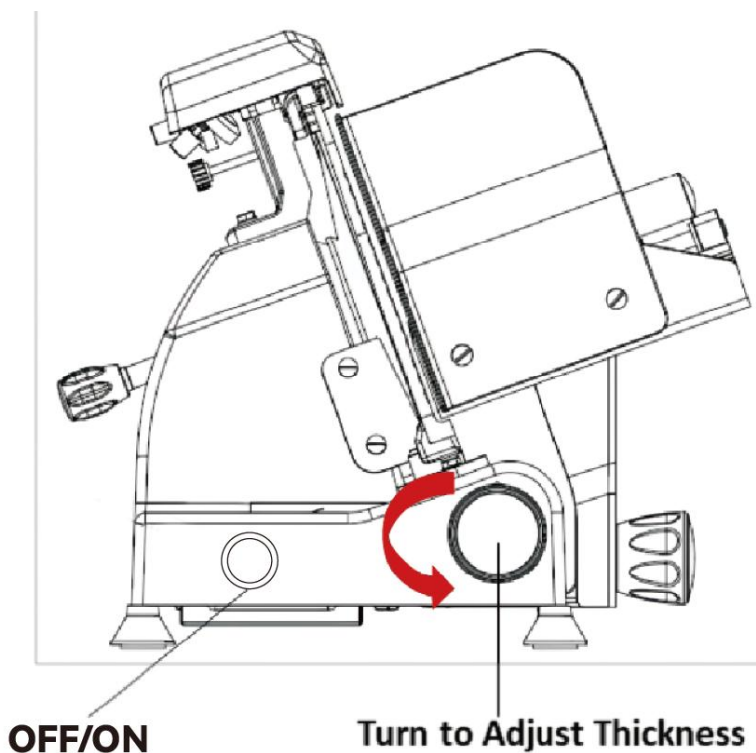

Fig. 2
5. To turn the meat slicer ON, push the Green "I" button. (Refer to Fig. 2)
6. To turn the meat slicer OFF, push the Red "O" button. (Refer to Fig. 2)
8. Place a tray or plate behind the Meat Slicer and below the Blade (Part ⑧) to collect the sliced food as it exits the blade area.
9. Hold the Food Pusher Handle (Part ⑪) with your right hand. Keep your hands protected behind the Food Pusher ⑤.
12. When finished, turn the meat slicer "OFF" (0) by pushing the Red button. (Refer to Fig. 2)
14. For safety, always rotate the Thickness Adjustment Knob (Part ②) to the "O" position after use to properly shield the sharp edge of Blade (⑧).